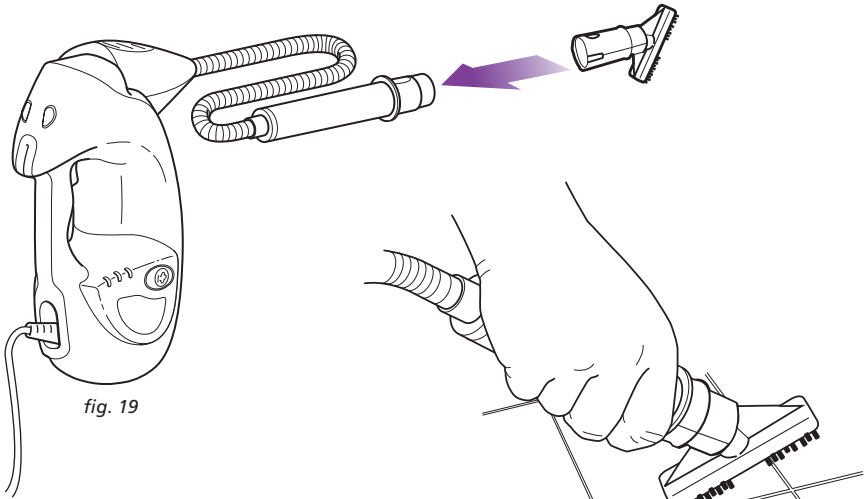

fig. 19
- 1 Attach the Crevice Tool by snapping into the handle of the Accessory Hose. (fig. 19)